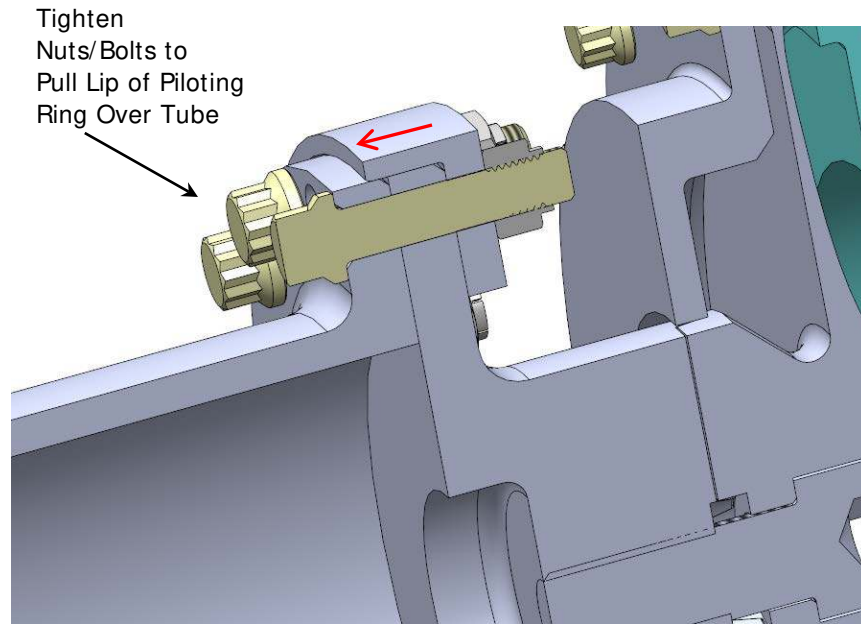

Figure 13 – Piloting Ring Fit Over Tube OD
4.2.3 While supporting the weight of the tube, tighten the bolts/nuts a few turns at a time in a criss-cross pattern to draw the piloting ring over the tube flange evenly (see Figure 13). Install the remaining bolts and nuts and torque evenly in a criss-cross pattern to the torque shown on drawing HC-6502.